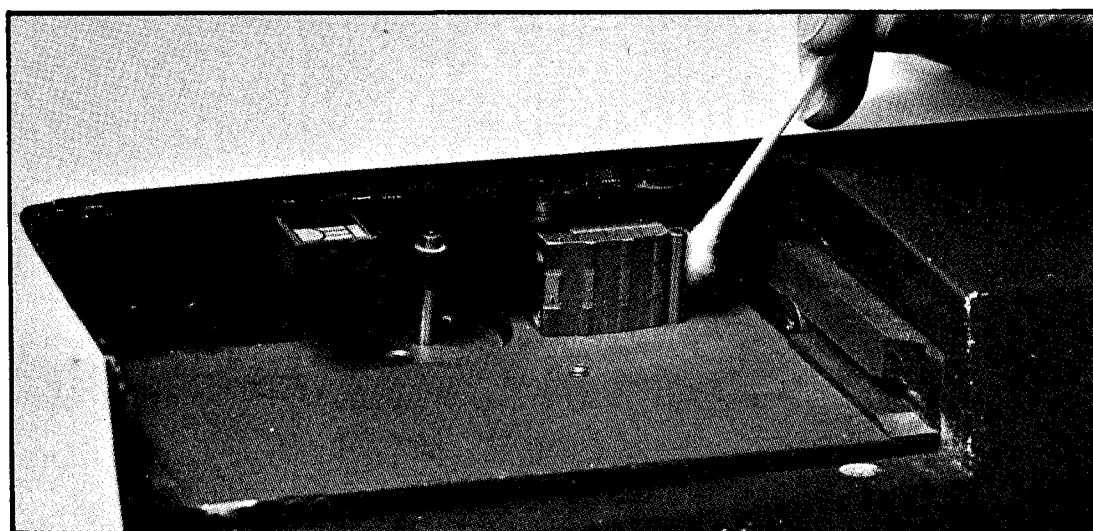

Figure 38. Cleaning head guides
5. Clean the head guides and head guide blocks with head cleaner. Guide blocks are immediately in back of the guides. Dry all parts with a clean, lint-free cloth (Figure 38).